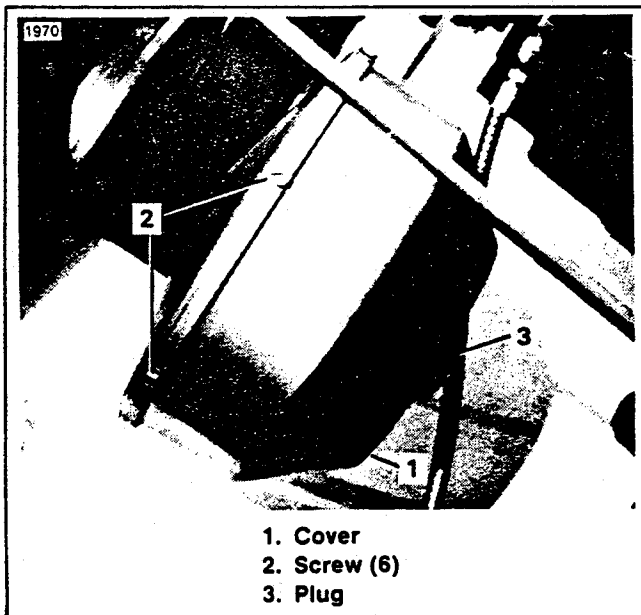

Figure 7-2. Primary Drive Cover
3. Install washer (7), lockwasher (8) and bolt (9) into stem. Install primary onto crankshaft taper and thread bolt (9) by hand. Hold primary as described in step 4 of DISASSEMBLY and tighten bolt (9) to 38-48 ft-lbs torque.
4. See Figure 7-2. Install outer cover (1), screws (2) and plug (3).